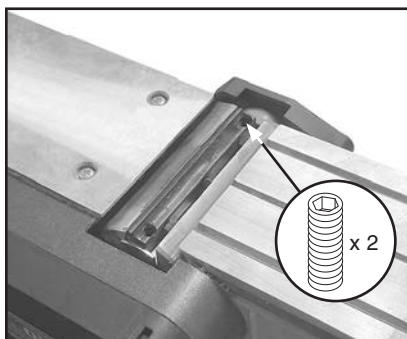

Figure 28. Location of knife adjustment set screws.
7. Adjust (2) set screws shown in **Figure 28** to adjust knife until entire length is flush with straightedge.